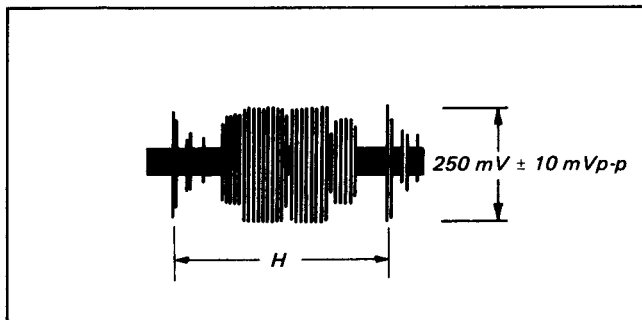

Fig. 5-31. Chroma record current adjustment
- i) Adjust to $250 \text{ mV} \pm 10 \text{ mVp-p}$ with RV5. (See Fig. 5-31.)